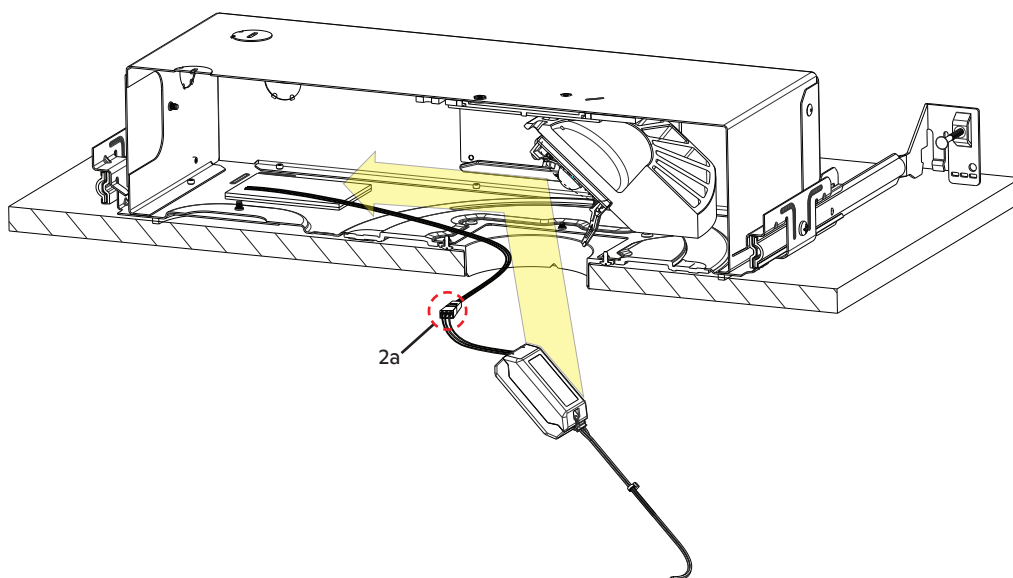

fig. 37
- a. Connect the power supply using the power supply connector (see fig. 37).